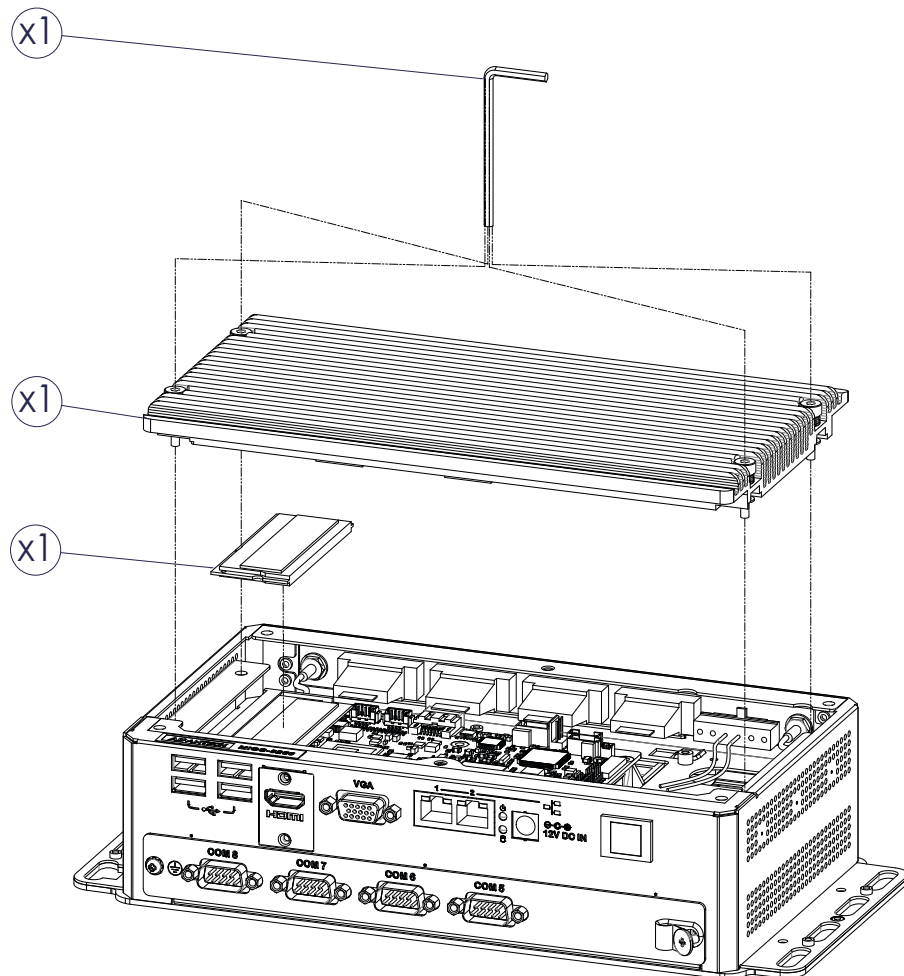

Figure 2.16 Illustration for step 2 and step 4
2. Unscrew the four screws on heatsink by using wrench. (Figure 2.16)
4. Install memory on single board computer and screw back the heatsink. (Figure 2.16)